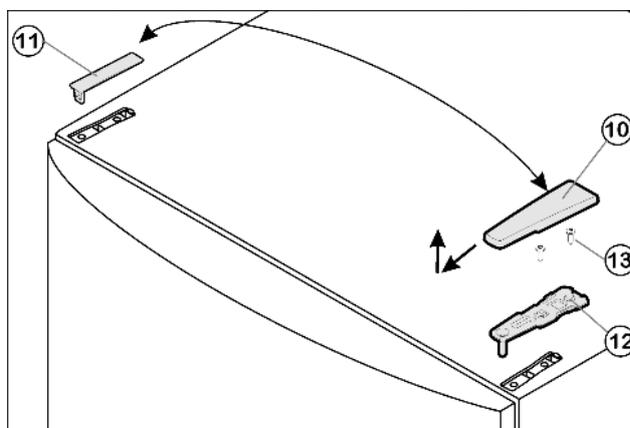

Fig. 4
- ▶ Pull off the cover Fig. 4 (10) forwards and upwards.
- ▶ Lift off the cover Fig. 4 (11).
- ▶ Unscrew the upper turn hinge *Fig. 4 (12)*(2x Torx® 25) *Fig. 4 (13)* and lift it off.
- ▶ Insert the upper turn hinge *Fig. 4 (12)* in the door on the new hinge side.
- ▶ Screw the upper turn hinge *Fig. 4 (12)* firmly into place (**with 4 Nm**)(2x Torx® 25) *Fig. 4 (13)*. Possibly make preliminary holes with a bradawl or use a cordless screwdriver.
- ▶ Snap the cover *Fig. 4 (10)* and cover *Fig. 4 (11)* into place at the opposite side.